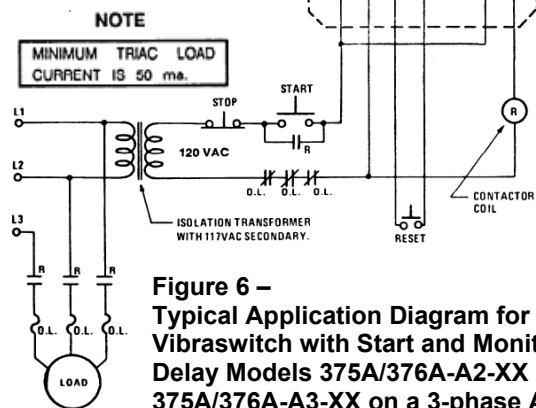

Figure 6 –
Figures 5, 6, and 7 show some typical applications of the various models of the Vibraswitch. In figures 6 and 7, the circuits shown use relay (R) to provide the contacts for the load. When the Vibraswitch "trips", relay (R) will open to shut down the load.
NOTE: In figure 6 the jumper plug is connected to the N.C. position.